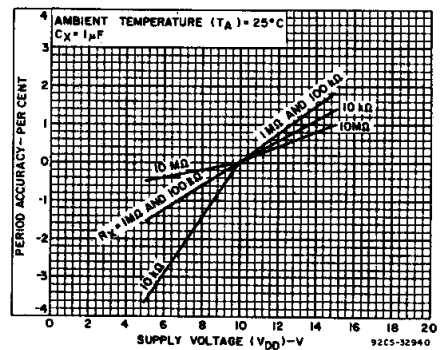

Fig. 11—Typical astable oscillator or Q, Q̄ period accuracy vs. supply voltage.
**B. Variations Due to  $V_{DD}$  and Temperature Changes** — In addition to variations from unit to unit, the astable period varies with  $V_{DD}$  and temperature. Typical variations are presented in graphical form in Figs. 11 to 18 with 10% as reference for voltage variations curves and 25°C as reference for temperature variations curves.